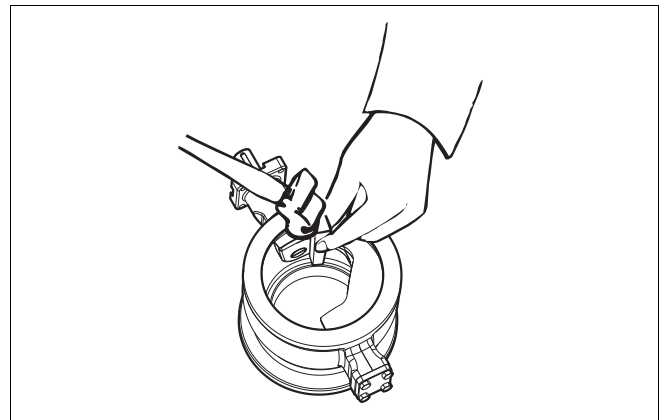

Fig. 31 Securing with a plastic spindle
- Use a plastic spindle to ensure that the seat is correctly placed and can move freely, Fig. 31.